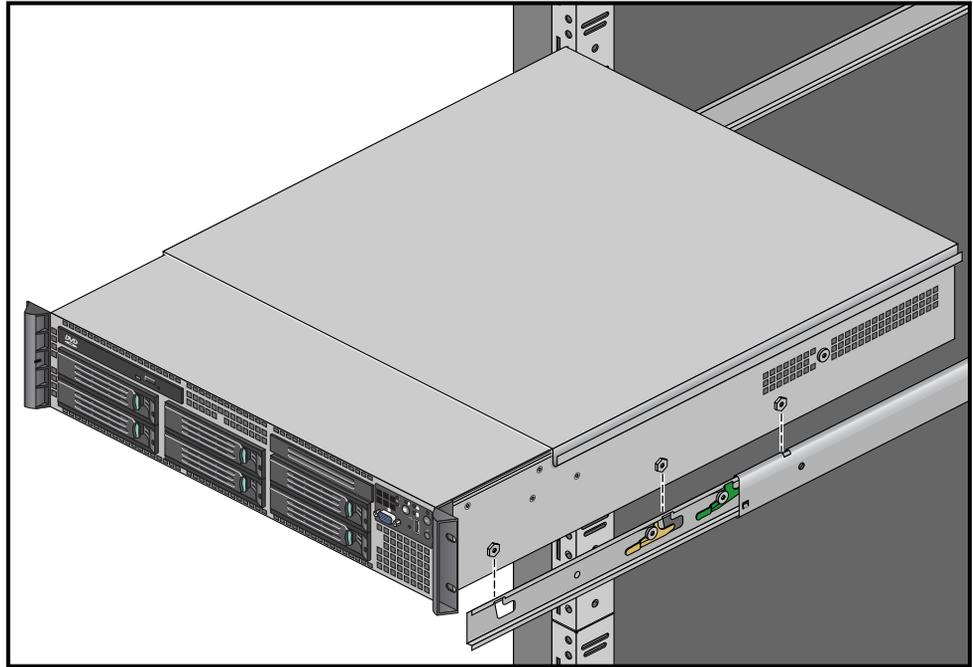

Figure 1-19 Data Manager Slide Rail Mounting Stud Positions
- Using two people, align and insert the data manager's mounting studs into the component mounting channels on the two slide rails, see Figure 1-19 for an example.